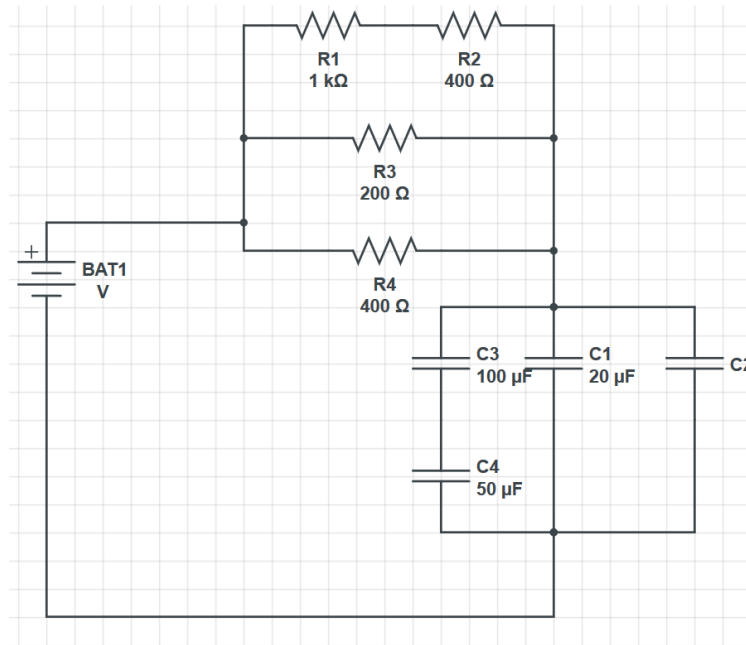

Figure 4.7: Time constant practice.
14. Answer the following in the results section of your log book. Your draft calculations can be shown in the “General Notes” section of the log book. Given Fig. 4.7, what must be the value of C2 such that the time constant is approximately  $\tau = 12.5\text{ms}$ ? If one replaces C2 by two capacitors in series, one of which has  $C5 = 250\mu\text{F}$ . What must be the capacitance of the second capacitor to preserve the same time constant?